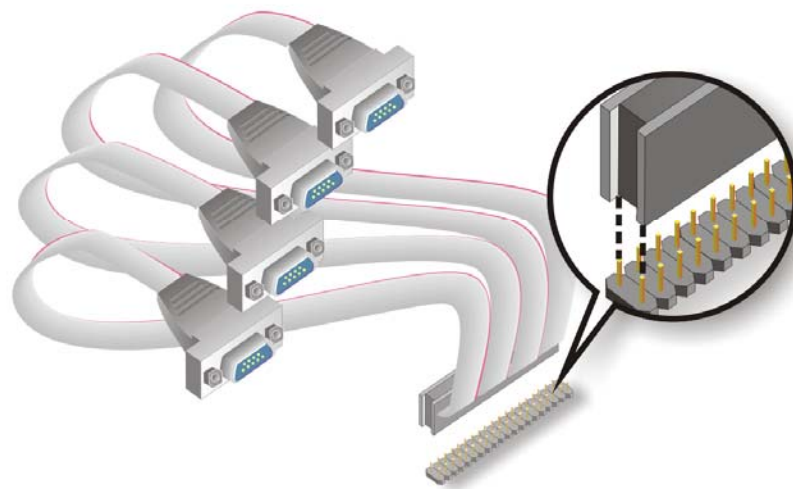

Figure 5-12: Four Serial Port Connector Cable Connection
Step 2: Align the connectors. Correctly align pin 1 on the cable connector with pin 1 on the WAFER-LX2 serial port COM connector. See **Figure 5-12**.
Step 3: Insert the cable connectors Once the cable connector is properly aligned with the serial port COM connector on the WAFER-LX2, connect the cable connector to the onboard connectors. See **Figure 5-12**.